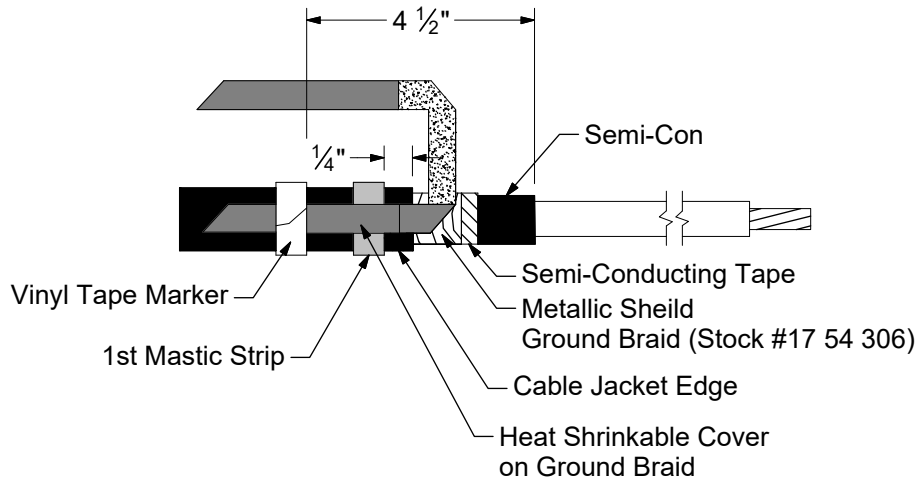

Figure 3A
3. Position a preformed ground braid (Stock #17 54 306) with the "U" section over the metallic shield directly adjacent to the cable jacket cut edge. Position one tail of the ground braid over the cable jacket with the heat-shrinkable covering in contact with the mastic strip. Secure the tail to the cable jacket 4-1/2" from the edge of the semi-con using vinyl tape. Note: Position the vinyl tape with care since it also serves as a marker for positioning the terminator. See Figure 3A.